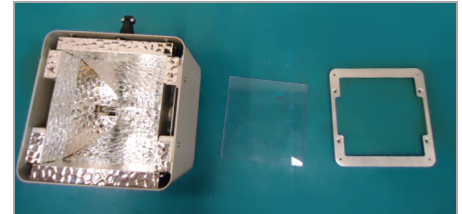

Figure 1. Lamp with Filler Plate Removed
1. Remove the Filler Plate from the bottom of the ECE 5000 Lamp (Figure 1). Look at the bottom plate of the ECE 5000 Lamp. Notice the cut-out in the Filler Plate.